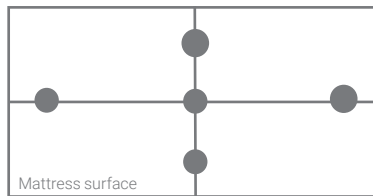

Figure 1: Mount Vernon Test points
-  Standing at the side of the bed, link both hands to form a fist. Keep the elbows straight and lean forward, push your fists into the mattress at the points in **Figure 1**. If the bed base can be felt at any point, the mattress has 'bottomed out', and should be withdrawn from service immediately. Failing to observe this instruction may pose a significant risk of pressure damage to the user.